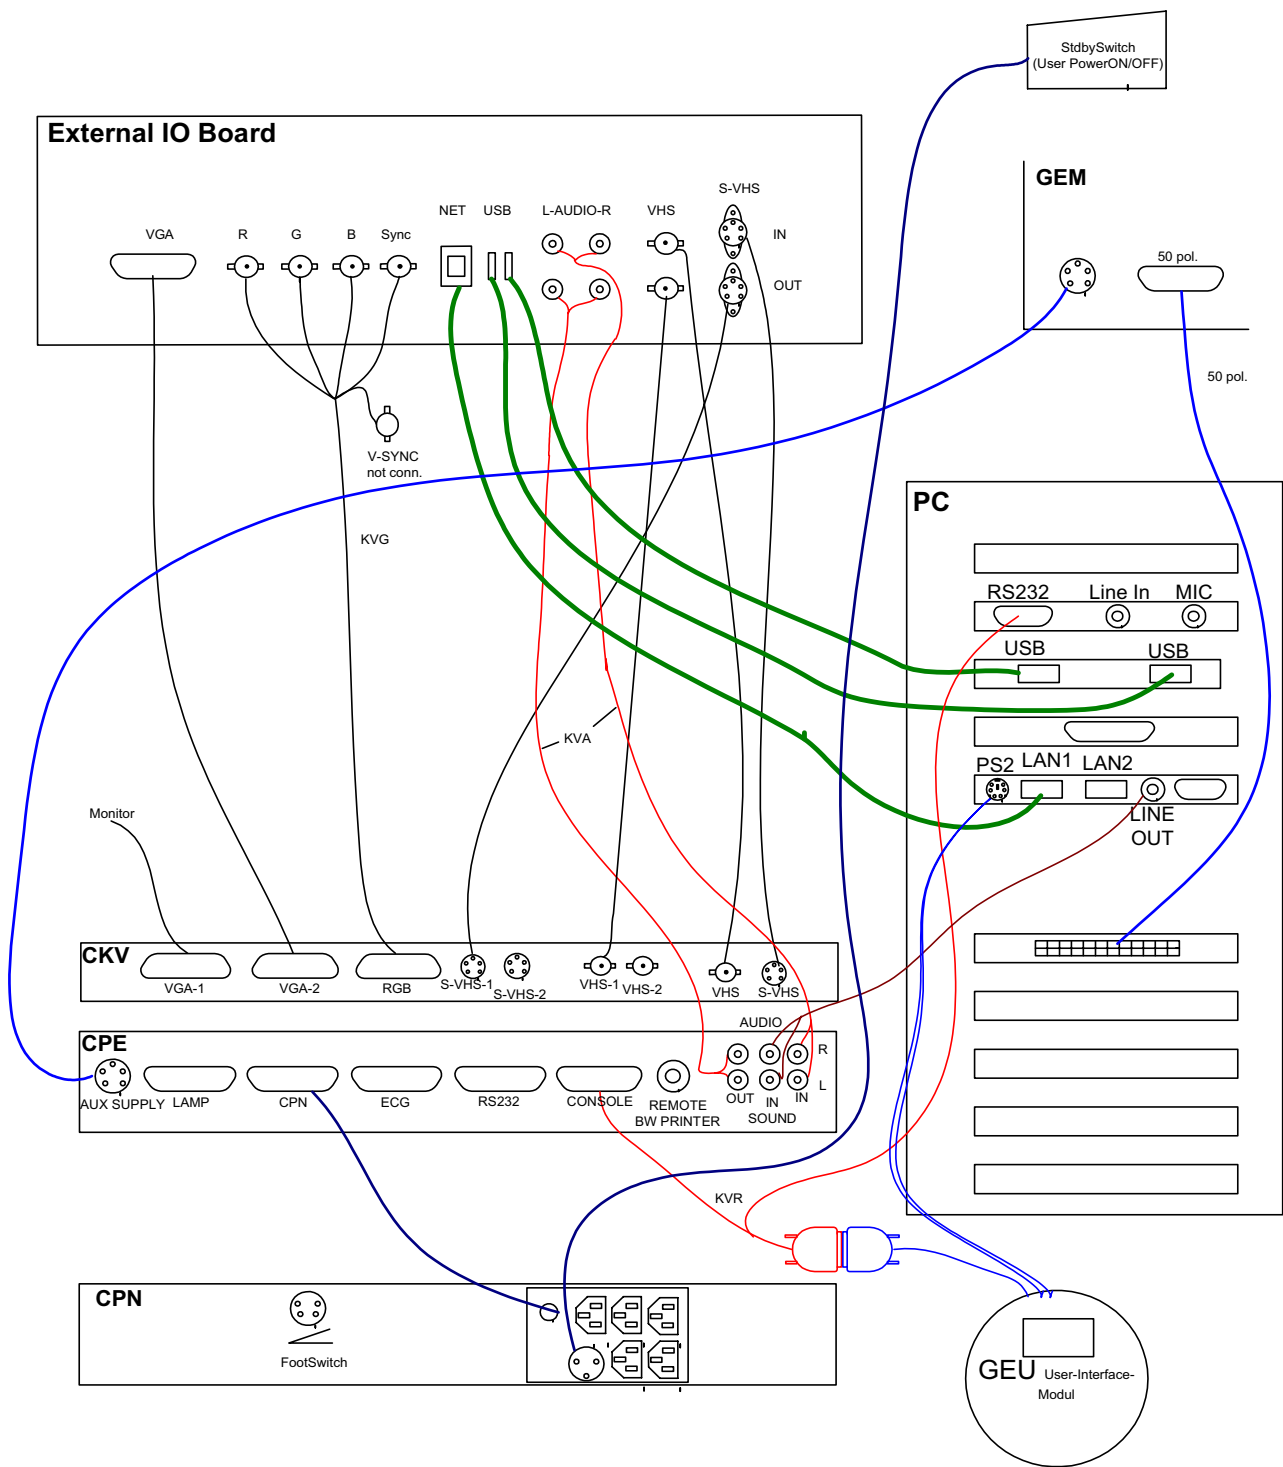

Figure 5-14 Internal I/O Board 3
- 3.) SNO's A06269 - A----- (1GHZ PC, Sound onboard, SCSI onboard) *Figure 5-14: Internal I/O Board 3*